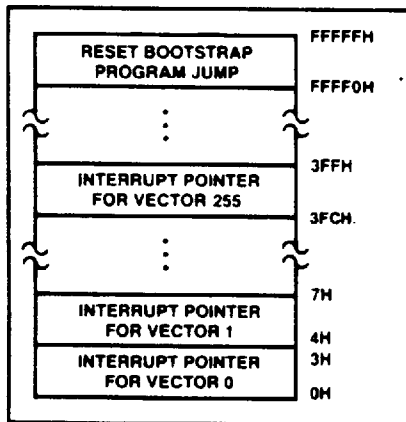

FIGURE 8. 80C286 REAL ADDRESS MODE INITIALLY RESERVED MEMORY LOCATIONS
The 80C286 reserves two fixed areas of memory in real address mode (see Figure 8); system initialization area and interrupt table area. Locations from addresses FFFF0(H) through FFFF(H) are reserved for system initialization. Initial execution begins at location FFFF0(H). Locations 00000(H) through 003FF(H) are reserved for interrupt vectors.